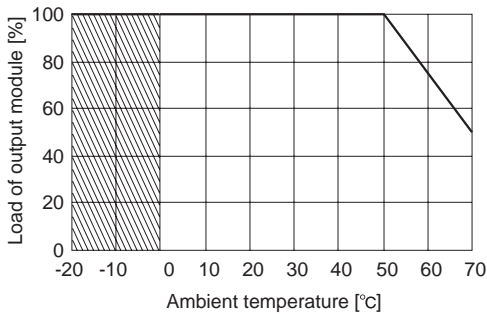

Fig. 4.6 Derating curve for ambient temperature
■The derating curve for the ambient temperature (inlet temperature for cooling) of output modules is shown in Fig. 4.6.
Accordingly, because the derating curve (Fig. 4.6) indicates that up to 100% of the maximum load can be used up to 50°C and the largest value amongst A0, A11, A21, A31, A32, A41, and A51 is 96%, this assures that these input and output conditions are acceptable.